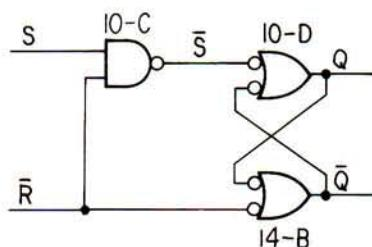

Fig. 1-14
- Fig. 1-14 shows a Set-reset type of FF basically constituted by 10-D and 14-B (both set and reset are zero priority inputs) with the gate 10-C added for determining the priority of the inputs.